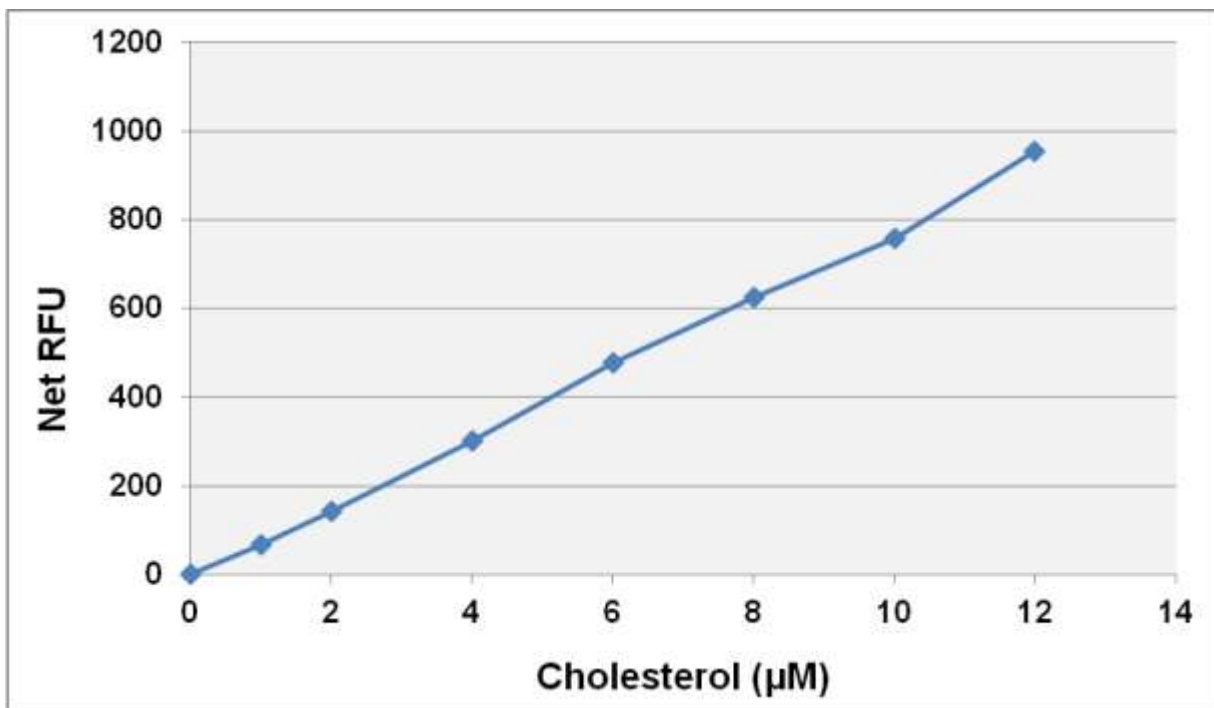

Figure 2: Cholesterol Standard Curve.
2. Plot the corrected fluorescence for the standards against the final concentration of the cholesterol standards from Table 1 to determine the best curve. See Figure 2 for an example standard curve.